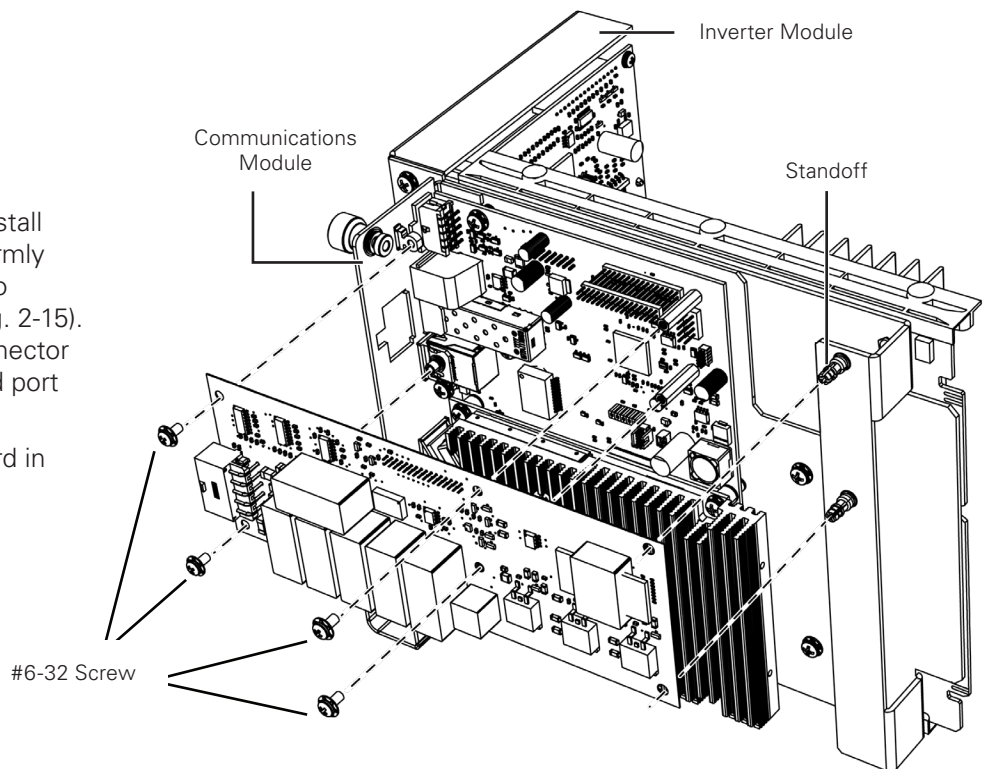

Fig. 2-15, Installing the SAG Card
2. In the communications module, install the Smart AlphaGuard™ card by firmly pressing the holes through the two standoffs on the right side (see Fig. 2-15). Ensure the Smart AlphaGuard connector lines up with the Smart AlphaGuard port opening on the module.